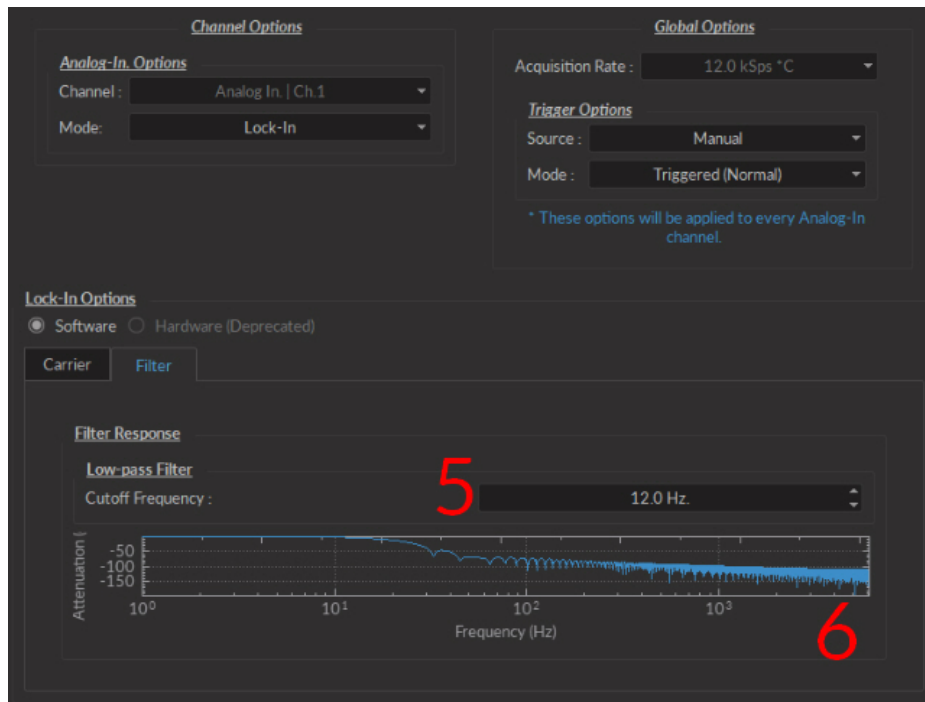

Figure 2.11: Channels configuration, Analog Input Lock-in Mode, Filter Tab
5. The **Cutoff Frequency** (Fig. 2.11) (the frequency at which a -3 dB attenuation will occur), found on the **Filter** tab is kept fixed at 12 Hz for optimal filtering results.